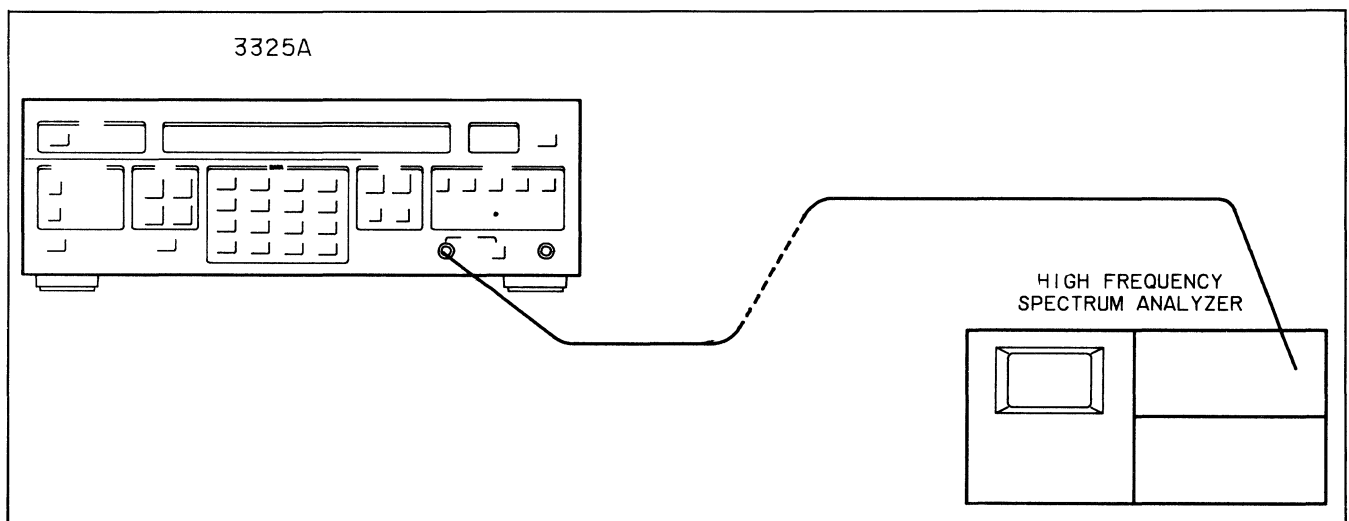

Figure 4-1(a). Harmonic Distortion Verification.
l. Connect the 3325A to the low frequency spectrum analyzer as shown in Figure 4-1(a). Set the 3325A frequency to 10 kHz, amplitude to 10 Vp-p.